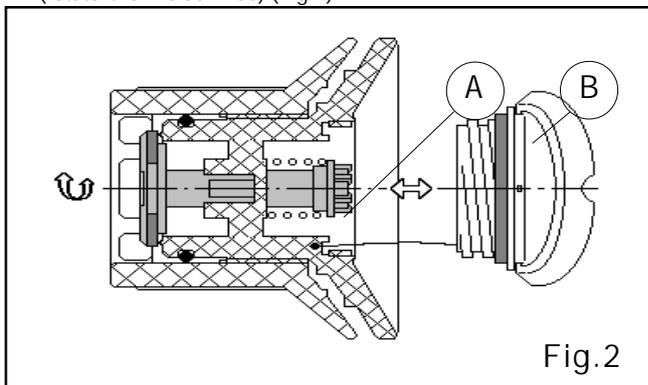

Fig.2
5. Apply the foot pump to fill the afterbody compartments with air to the pressure being slightly below its rated value (the balloon will be completely straightened). Then fill the forebody compartment with air up to the rated pressure. The rated pressure value is 0.15 bar. (see Fig.2)
In order to discharge air from the compartments, open the valves (by counterclockwise rotation) and switch the valves over into condition "OPEN"(see Fig.2).
- sliding part A is withdrawn - operation condition of the valve (compartment air filling mode)(see Fig.2);
operating condition. On completion of filling close the valves with bonnets B (rotate them clockwise).(Fig.2)